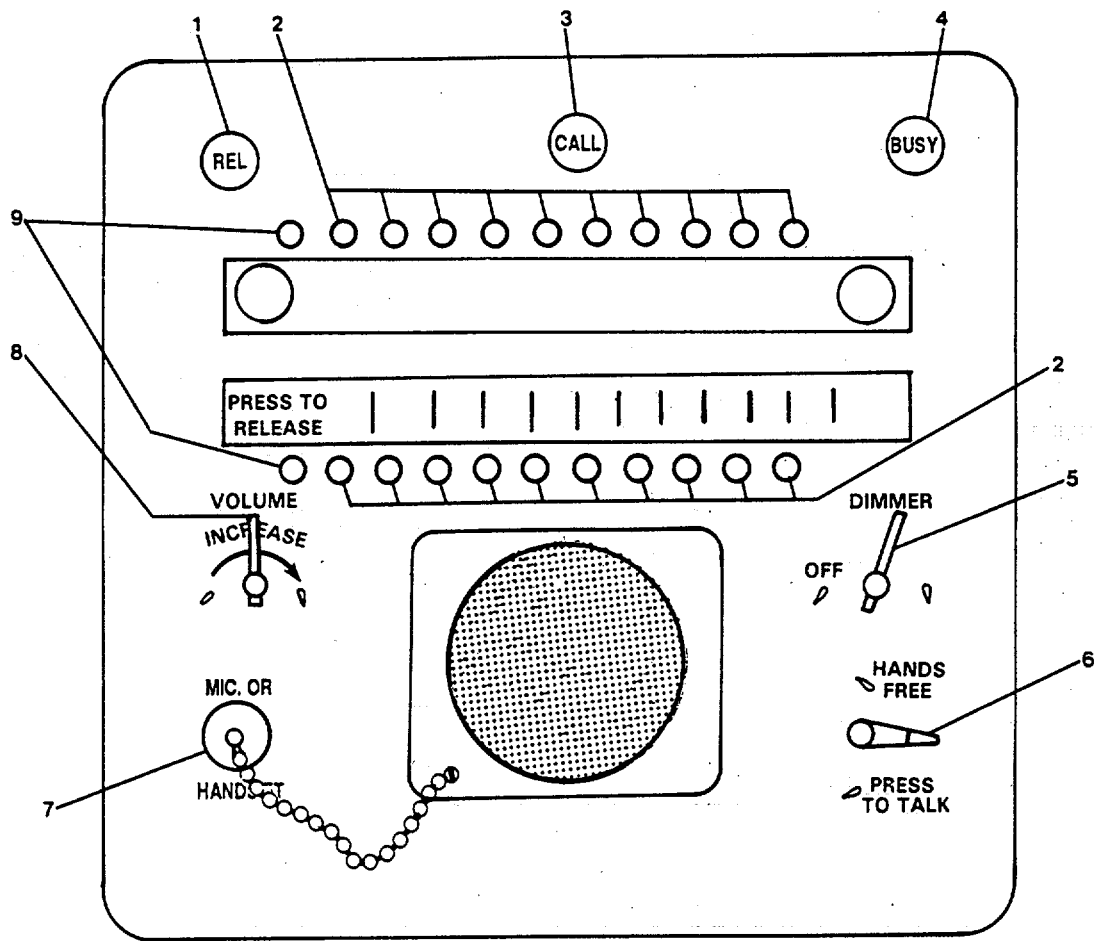

FIGURE 2-23. Intercom Panel, LS-519 / SIC (U).
Intercom Panel, LS-519 / SIC (U) (FIGURE 2-23)